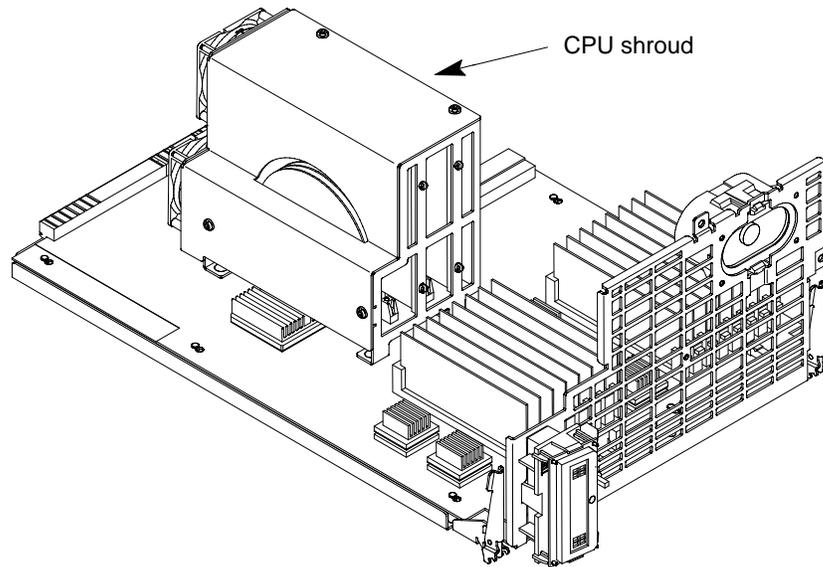

Figure A-26. CPU Shroud Location
5. Locate the CPU shroud as shown in Figure A-26.